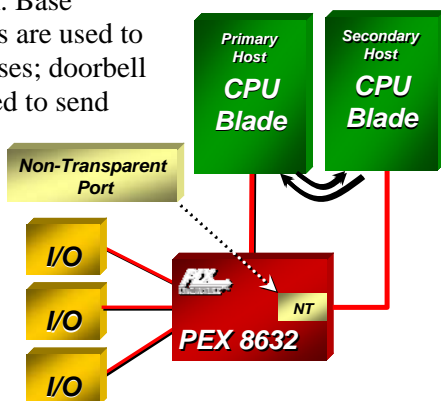

Figure 2. Non-Transparent Port
The PEX 8632 product supports a **Non-Transparent (NT) Port**, which enables the implementation of **multi-host systems** in communications, storage, and blade server applications. The NT port allows systems to isolate host memory domains by presenting the processor subsystem as an endpoint rather than another memory system. Base address registers are used to translate addresses; doorbell registers are used to send interrupts between the address domains; and scratchpad registers (accessible from both CPUs) allow inter-processor communication (see Figure 2).